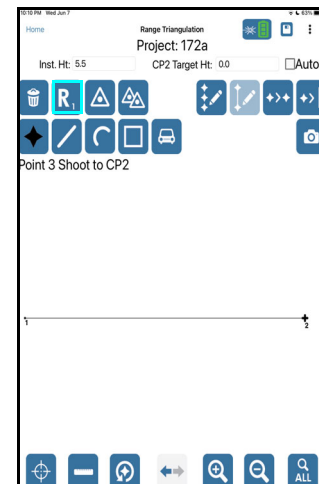

Figure 43
1. After taking the first shot, to Origin in Baseline or to CP1 in Range, tap the Reshoot (1) button  (Figure 43). Move the equipment to the intended position, if necessary.